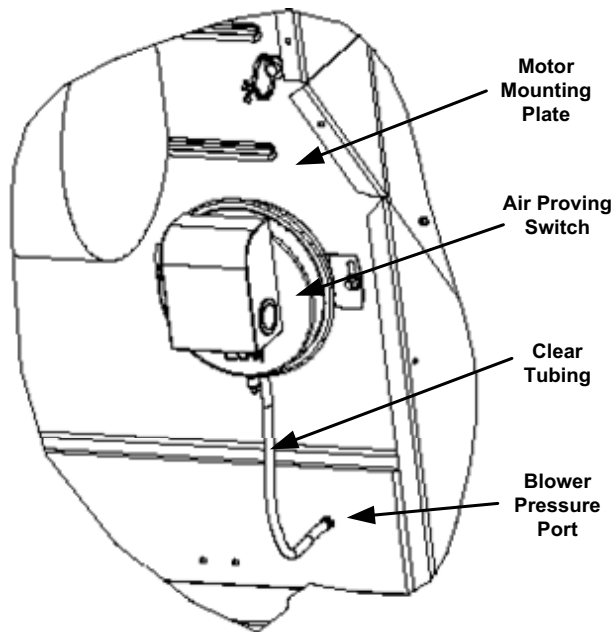

FIGURE 3: APS Location for 6.5 - 12.5 Ton Cabinets
3. Mount the Air Proving Switch on the motor mount plate and secure with two #10-16 drill screws. (Figure 3 shows the approximate location and orientation) Switch must be mounted vertically with ports pointing down.
10. Figure 3 shows complete installation in the 6.5-12.5 Ton cabinets.